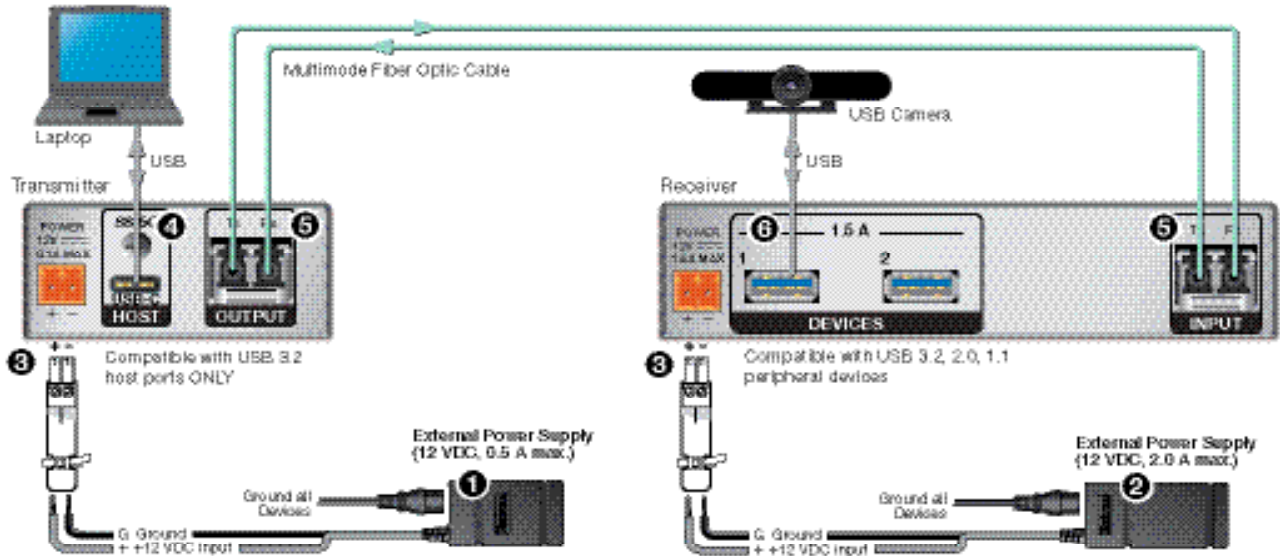
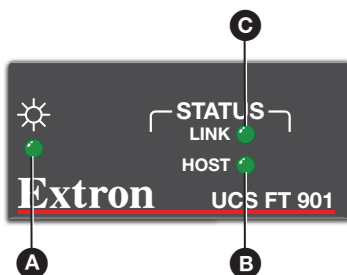

Figure 4. Transmitter and Receiver Connection with Two External Power Supplies
Figure 6. Transmitter Front Panel
Figure 4 shows connections for the UCS FT 901 and UCS FR 902.
To ensure proper operation, the transmitter, receiver, USB host, and USB peripherals must be connected properly and in the sequence described here (see figure 4, above).
3. Plug the two power supply connectors into their respective transmitter or receiver rear panel connectors (see figure 4, 3). Connect the 6 watt power supply (1) to the transmitter, and the 24 watt (2) to the receiver. The green Power LED (see figure 6, A, on page 5) on the front panel of each device lights when each device is powered on.
4. Connect a USB Type C-to-C cable from the host device to the transmitter HOST input (see figure 4, 4). The Host LED (see figure 6, B) lights, indicating that communication between the transmitter and host device has been established.
NOTE: Ensure that the USB cable between the host device and the transmitter (see figure 4, 4) supports USB 3.2 for proper operation.
5. Connect a multimode fiber optic cable from the Output port of the transmitter to the Input port of the receiver (figure 4, 5). The transmitter and receiver front panel LINK LEDs will light steadily (figures 6 and 7, C).
8. Connect up to two USB peripheral devices (such as a camera, keyboard, touchpanel or printer) to the receiver USB ports (figure 4, 6).